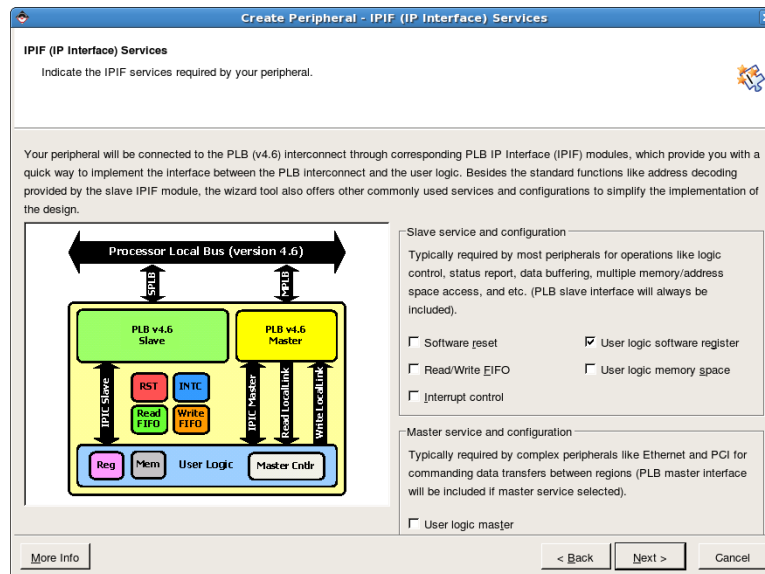

Figure 4: Peripheral configuration
- (f) Figure 4 shows the next prompt. On the left, Xilinx provides us with a block diagram of our peripheral and the various functionality it can have. The right hand side of the window allows us to choose the services or functionality for our peripheral. Our peripheral is very simple and will only have software accessible registers. Thus, ensure only 'User logic software registers' is selected and press 'Next' to proceed.